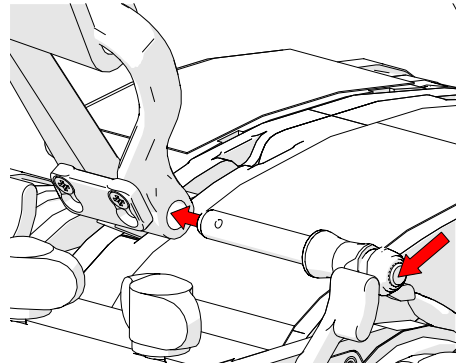

Fig. 101 - Insert pin
4. Align the tether attachment point and shackle. Insert the pin while pressing the pin's release button (Fig. 101).